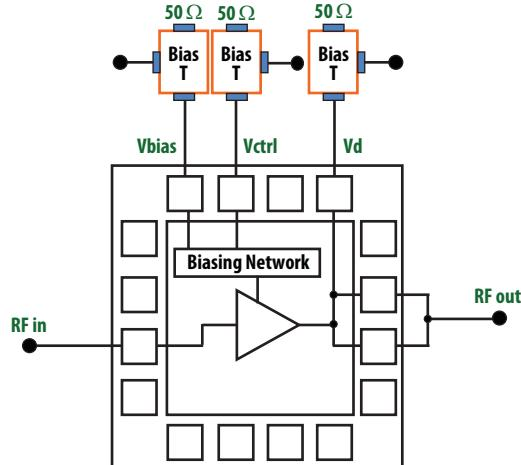

Figure 48. Circuit to measure de-embedded S-parameters and Noise Parameter in Table 4 and 5.
1. Measurements are conducted on 0.010 inch thick ROGER 4350. The input reference plane is at the end of the RFin pin and the output reference plane is at the end of the RFout pin as shown in Figure 48.
$T_C = 25^\circ C$, $V_{dd} = 5.0 V$, $I_{dd} = 59 \text{ mA}$, $Z_0 = 50 \Omega$ (Data is de-embedded to the RFin & RFout pins on package. Measurements were made with Bias-T at V_{dd} , V_{ctrl} and V_{bias} in Figure 48)
$T_C = 25^\circ C$, $V_{dd} = 5.0 V$, $I_{dd} = 59 \text{ mA}$, $Z_o = 50 \Omega$ (Data is de-embedded to the RFin & RFout pins on package. Measurements were made with Bias-T at V_{dd} , V_{ctrl} and V_{bias} in Figure 48)